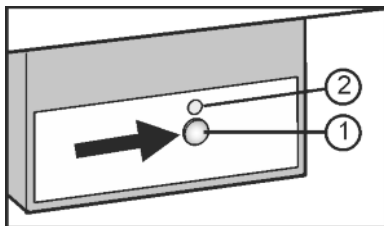

Fig. 7
- ▶ Press the On/Off button Fig. 7 (1) so that the LED Fig. 7 (2) shines.